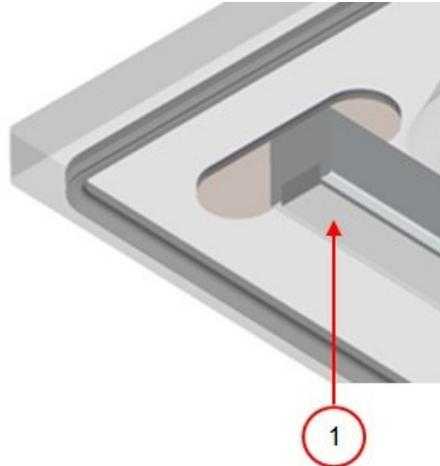

Figure 21: Replacing the Silicone Rubber of the Silicone Holders
1. Pull the old silicone rubber from the holder, see *Figure 21: Replacing the Silicone Rubber of the Silicone Holders* on page 42.